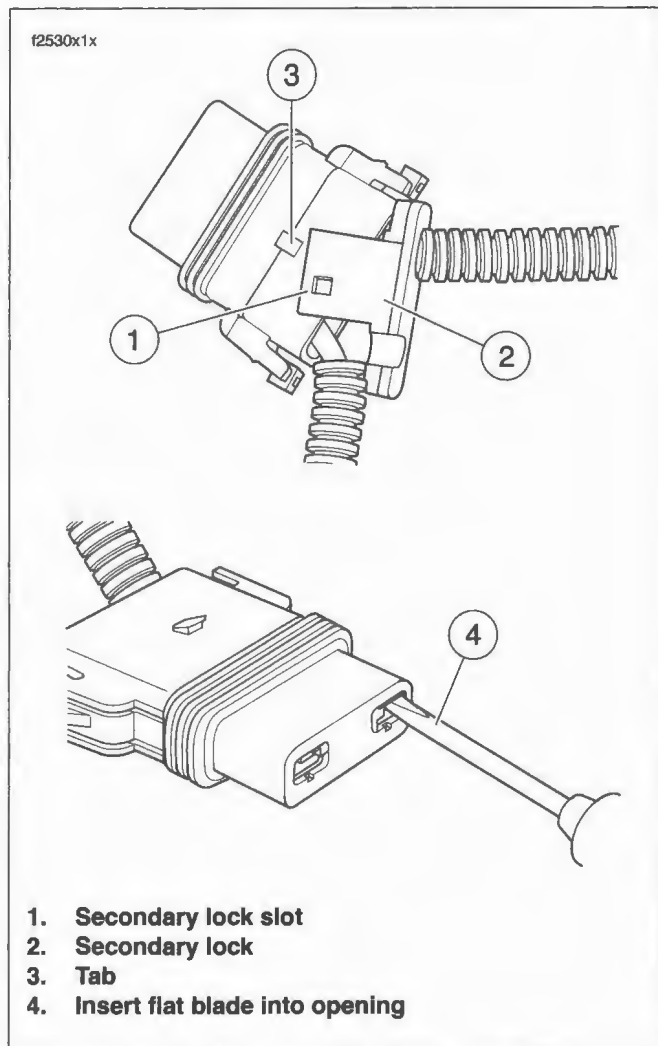

Figure B-31. Remove Socket Terminals
1. See Figure B-31. Gently pull socket housing to disengage slots (1) on secondary lock (2) from tabs (3) on socket housing. Free secondary lock from cables and set aside.
2. Take note of the opening on one side of the socket terminal. Gently insert flat blade of pick (Snap-On TT600-5) or small screwdriver into opening (4) until it stops. Pivot the pick toward the terminal body and hold in position.